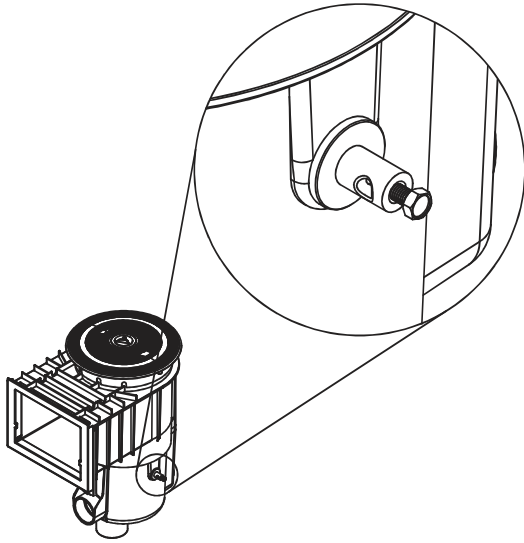

Figure 5
- Bonding can be performed by utilizing the integrated stainless steel bonding lug (optional upgrade) located on the outside of the QuikSkim (Figure 5). The bonding lug is molded into the body and connects to a corrosion resistant 316 stainless steel bonding plate located on the inside of the skimmer (Figure 6b). However, in the event that this plate should ever become corroded, it can easily be replaced by loosening the stainless steel locking nut (Figure 6a), removing the old bonding plate, adding a new bonding plate and securing the locking nut.